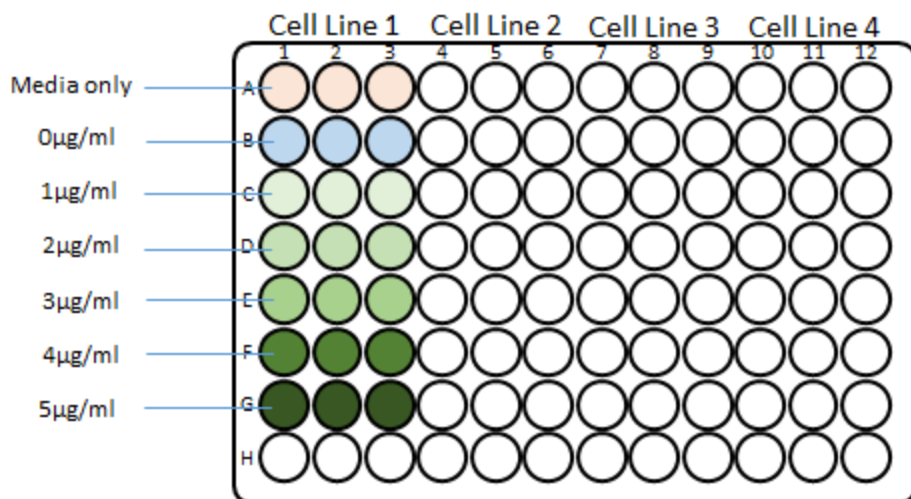

Figure 1. Plate layout for puromycin titration of one cell line.
Always seed 3 wells per row as the titration is carried out in triplicate. Therefore, a 96-well plate can be used to titrate up to 4 cell lines at a time (see Fig. 1).
- 6 Pipette $75\ \mu\text{L}$ of the puromycin 2x concentrations into the first 3 wells of rows C-G, to achieve the final concentrations as per the plate layout shown in Fig. 1.